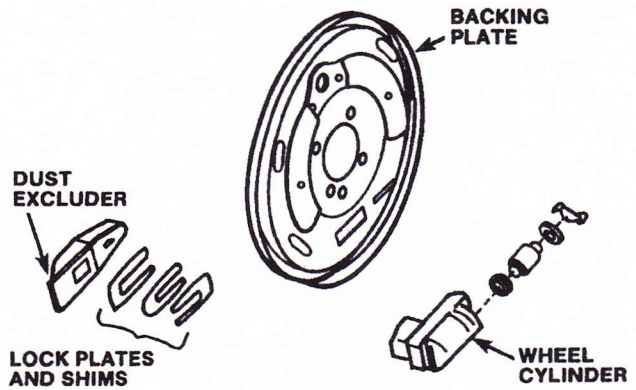
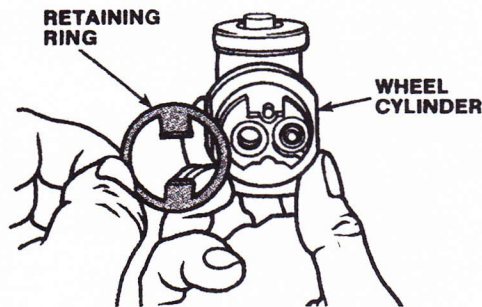

FIGURE 39-35 Lock plates and shims can be used to hold the wheel cylinder to the backing plate.
FIGURE 39-36 Example of a wheel cylinder retaining ring.
3. Remove the plates, shims, and bolts that hold the wheel cylinder to the backing plate (Figure 39-35). Some later designed wheel cylinders are held to the backing plate with a retaining ring (Figure 39-36) that can be removed with two small picks.